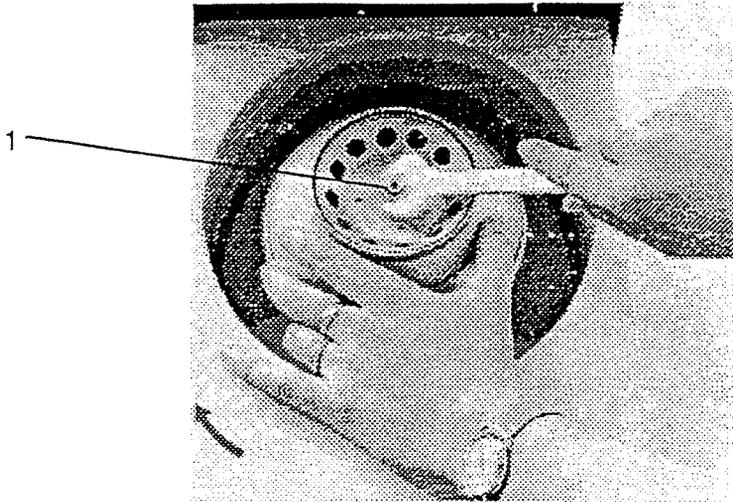

Figure 8
Secure the rotor to the shaft by turning the rotor nut (1) counter-clockwise. When doing this, hold the rotor with the other hand (see figure 8).